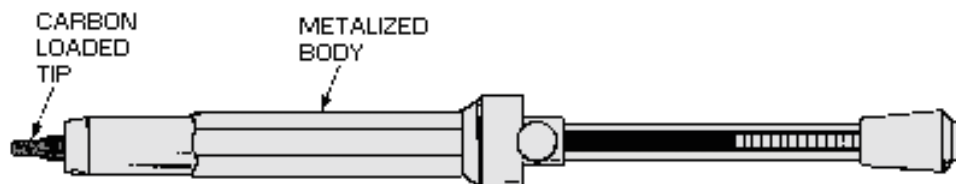

Figure 3-11.—Manual desoldering tool.
**MANUALLY CONTROLLED VACUUM PLUNGER.**—The second method of removing solder involves a manually controlled and operated, one-shot vacuum source. This vacuum source uses a plunger mechanism with a heat resistant orifice. The vacuum is applied through this orifice. Figure 3-11 shows the latest approved, manual-type desoldering tool. This technique involves melting the solder joint and inserting the solder-extractor tip into the molten solder over the soldering iron tip. The plunger is then released, creating a short pulse of vacuum to remove the molten solder. Although this method offers a positive vacuum rather than the capillary force of the wicking method, it still has limited application. This method will not remove 100 percent of the solder and may cause circuit pad lifting because of the extremely high vacuum generated and the jarring caused by the plunger action.